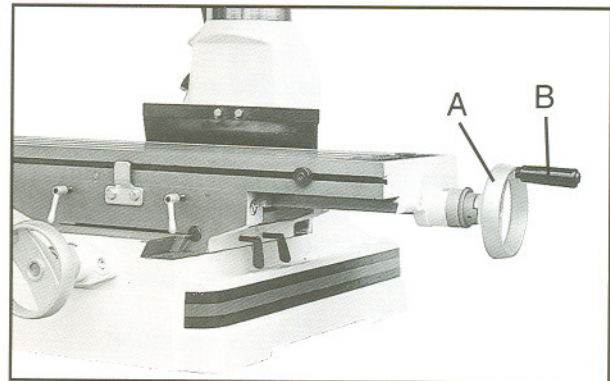

Fig. 3
5. Slide handwheel (A, Fig. 3) onto table handwheel shaft and tighten set screw. Insert handle (B, Fig. 3) into handwheel and tighten.